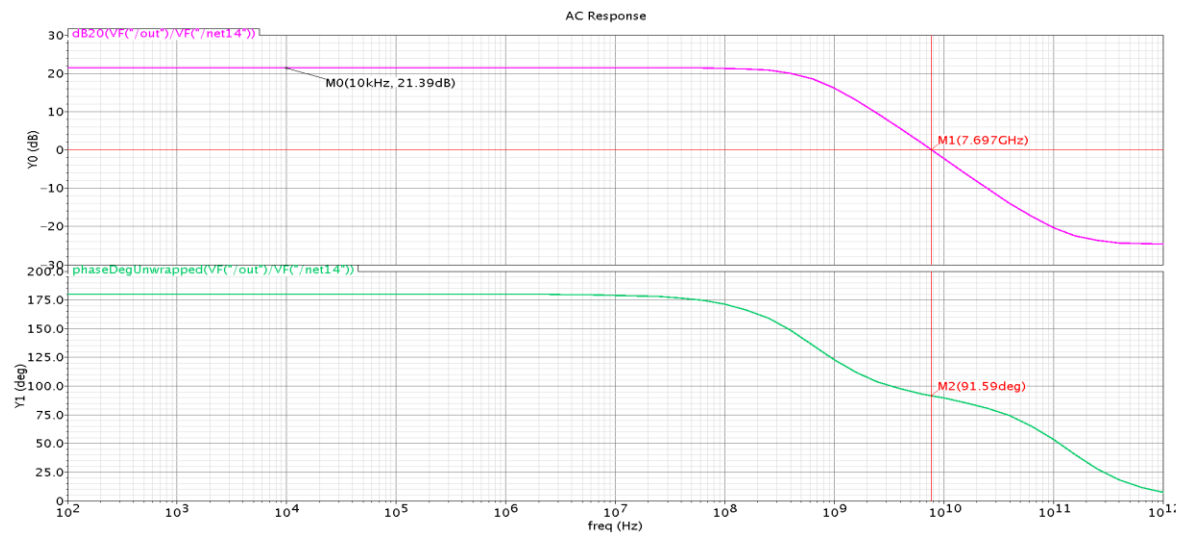

Fig.1.5. Frequency response CS with active load
- It is clear that the gain of using active load with CS increases its gain. Form figure 1.5, gain is 21.39 dB ≈ 11.73 .